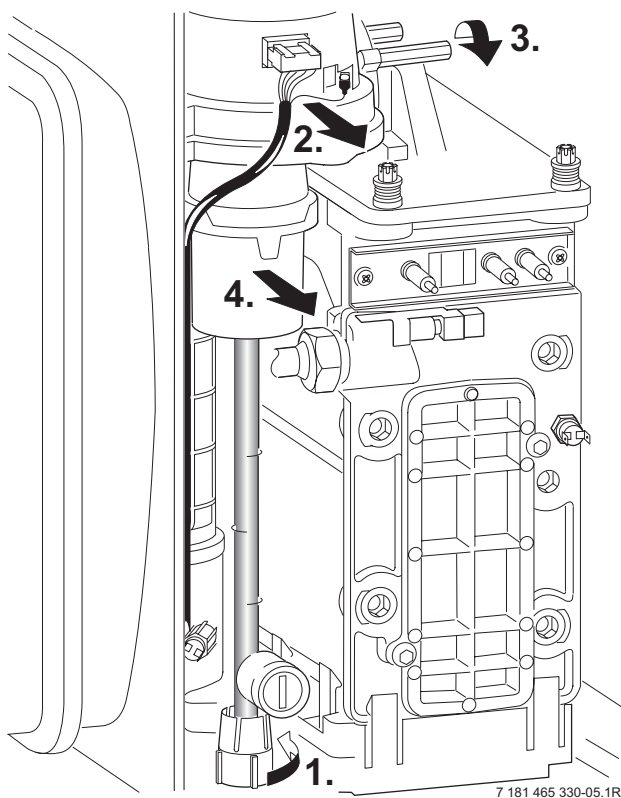

Fig. 56
- ▶ Undo lower pipe union on gas pipe (1.). Refer to fig. 56.
- ▶ Undo the union, within the inner casing, securing the valve to the gas/air tube. Refer to fig. 56.